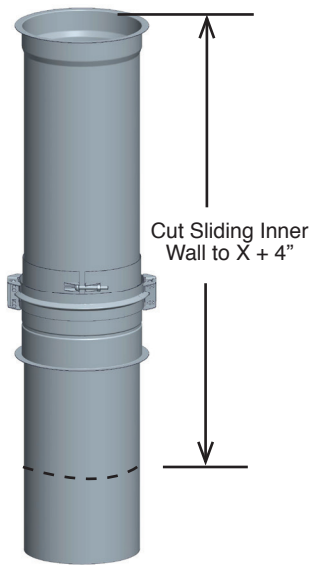

Figure 24a - Step 2 - Cut of the Sliding Inner Wall
2. Cut the inner wall at the dimension X found at the first Step + 4". See **Figure 24a**.